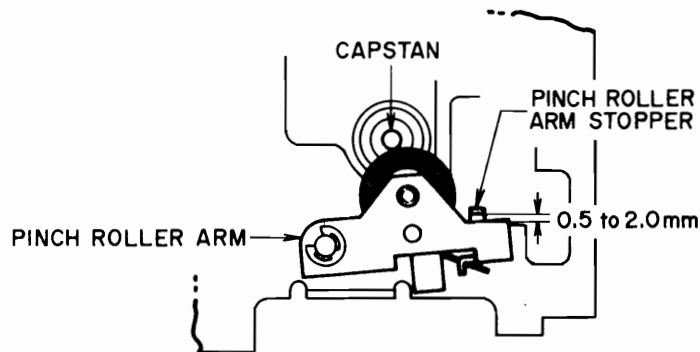

Fig. 6 Gap Between Pinch Roller Arm and Stopper
4. ADJUSTMENT OF GAP BETWEEN THE PINCH ROLLER ARM AND STOPPER (Refer to Fig. 6)